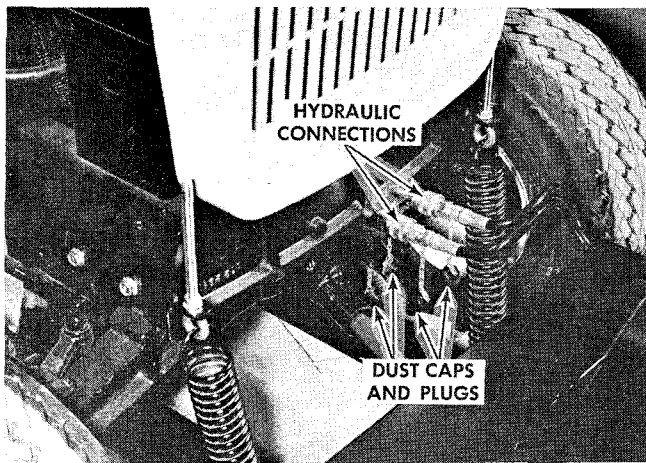

FIGURE 14
15. Remove the dust caps from the end of the hydraulic hoses and the connections on the front of the tractor. Plug the hoses into the hydraulic connections on the tractor. See figure 14.